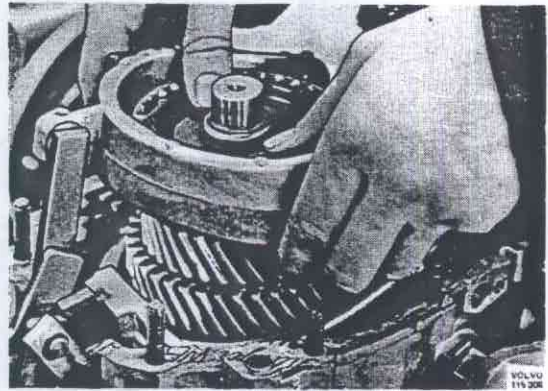

Fig. 43-61. Removing engaging sleeve
21. Remove the engaging sleeve and selector fork for 3rd-4th synchronizing, Fig. 43-61. Remove the interlock units.